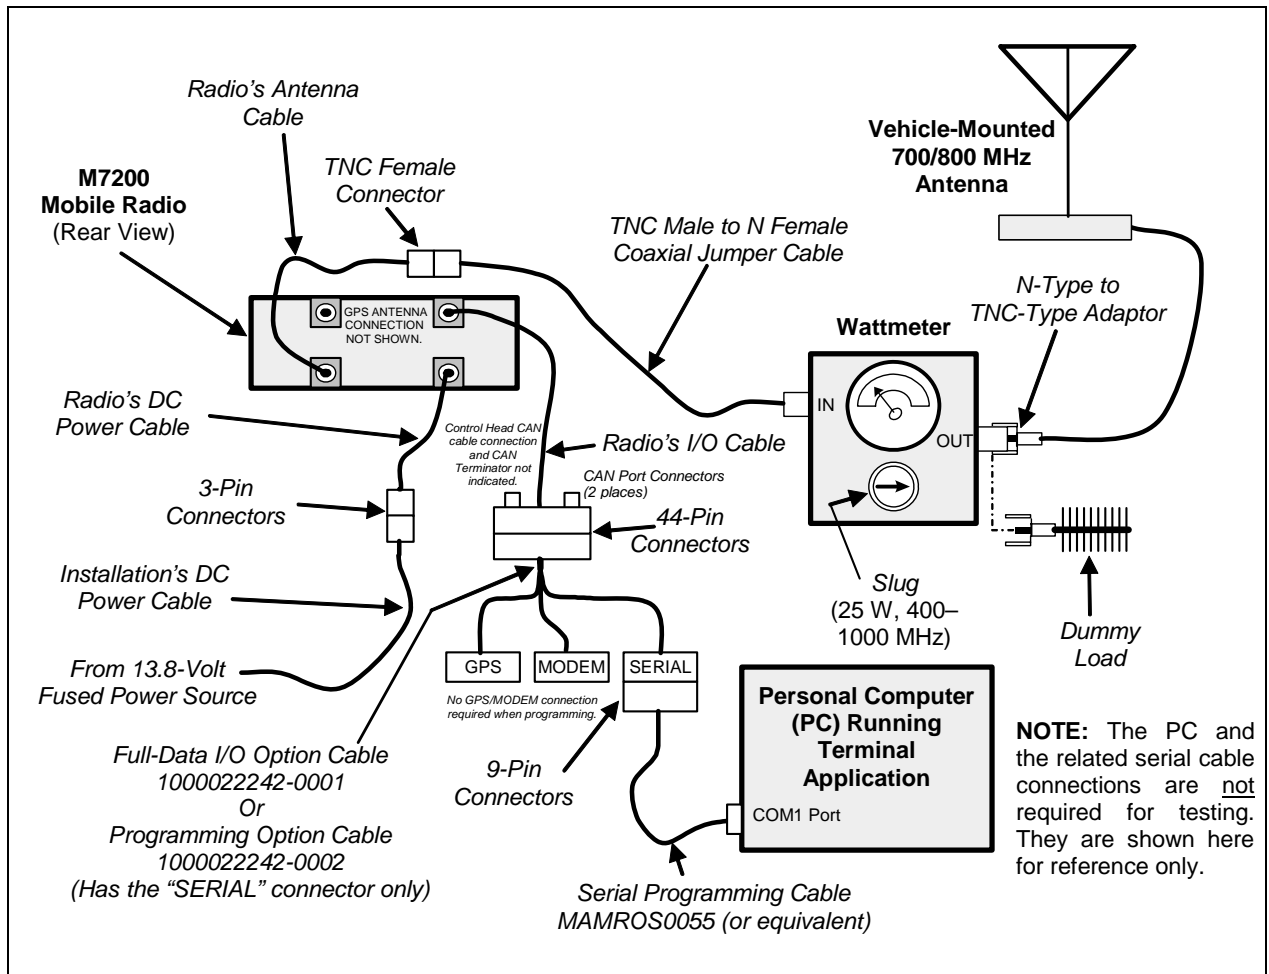

Figure 16-1: Wattmeter Connections for Antenna System Tests
1. Using the N-type male to TNC-type male RF coaxial jumper cable, connect the radio's antenna connector to the wattmeter's input connector. Refer to Figure 16-1 as necessary.
1. Connect the antenna cable from the vehicle-mounted 700/800 MHz antenna to the wattmeter as shown in Figure 16-1.